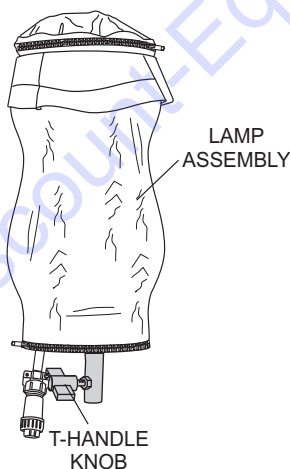

Figure 18. T-Handle Knob
2. If lamp assembly is attached to offset pole, loosen T-handle knob (Figure 18) that secures the lamp to the offset pole.